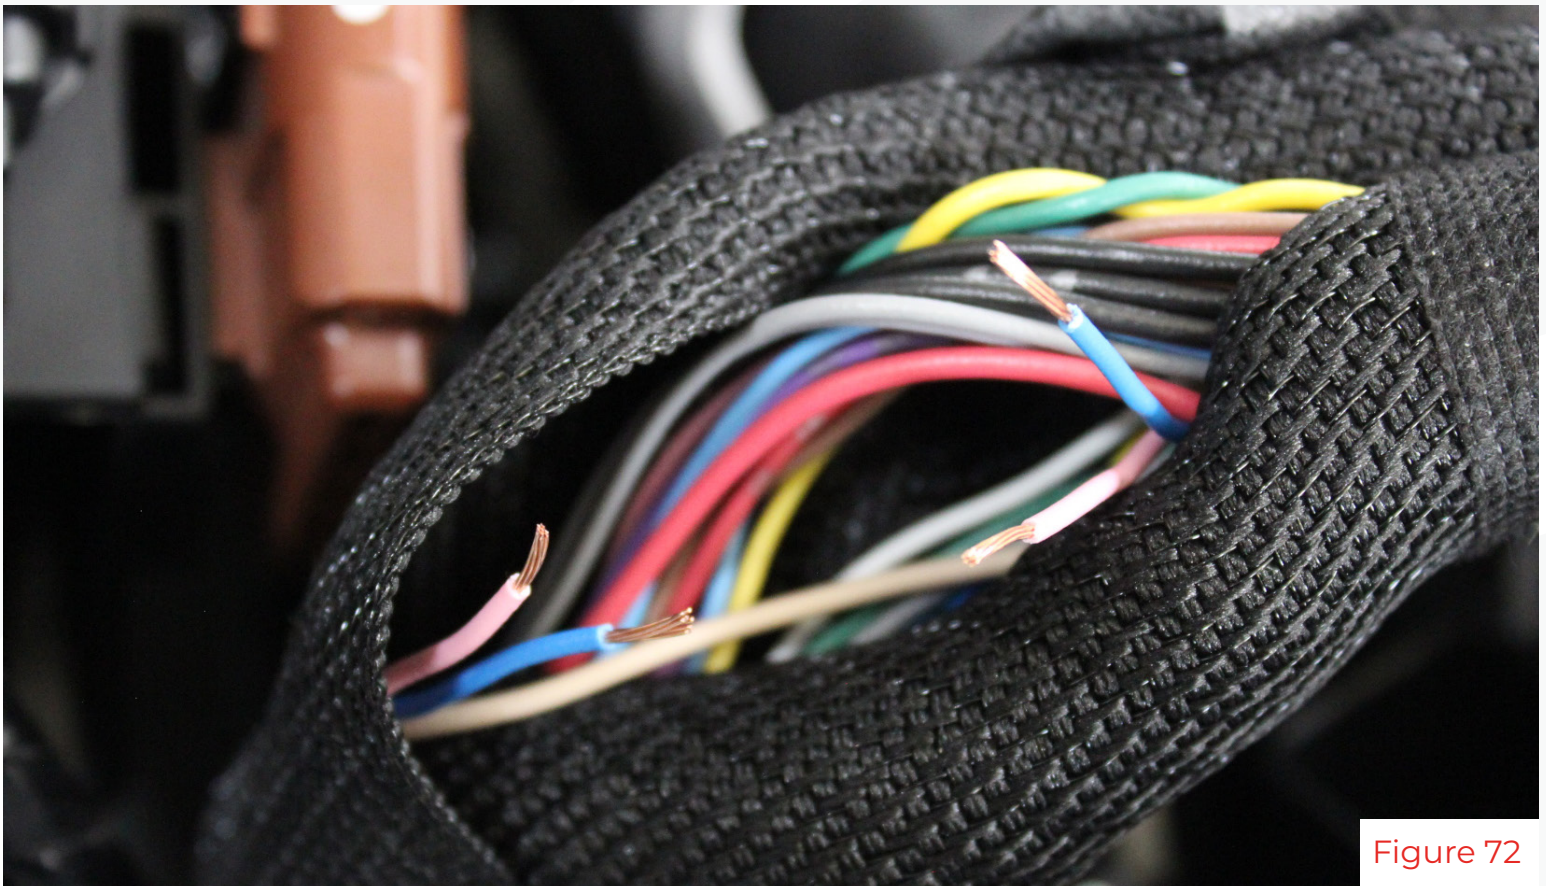

Figure 72
33. Cut the CAN wires in the middle and use a wire stripper to prepare another crimp connection(fig 72).